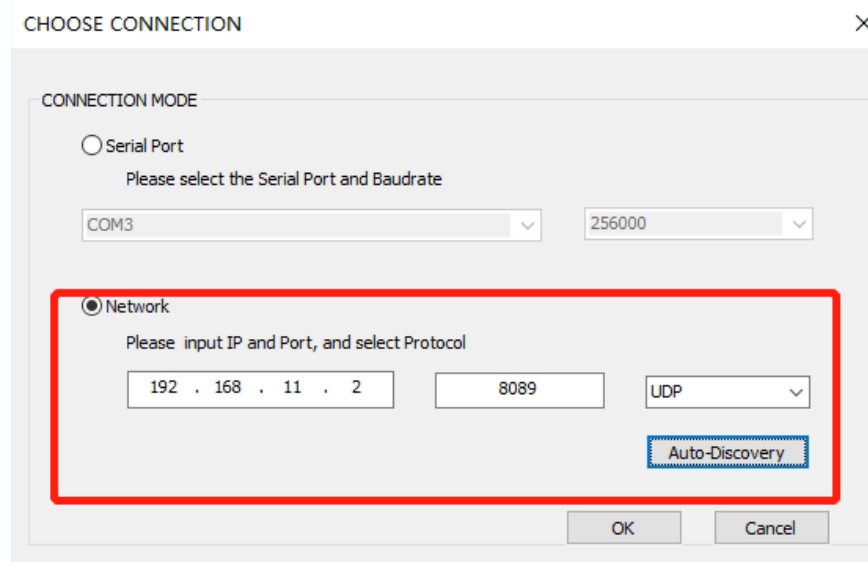
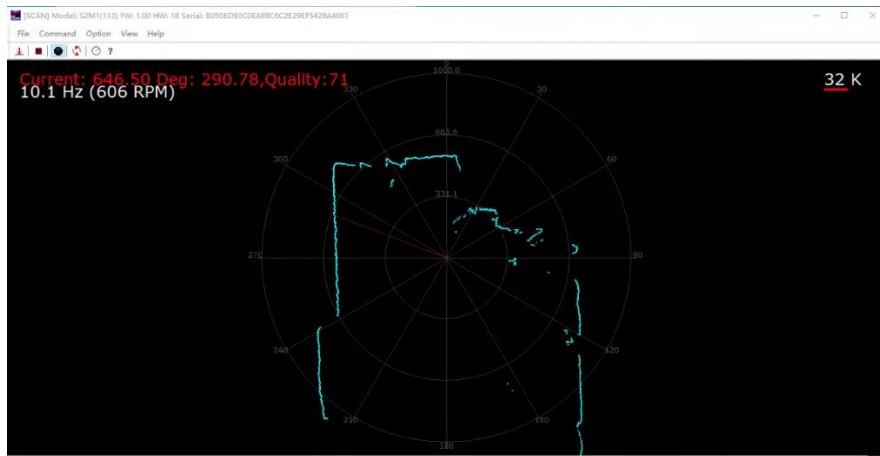

Figure 3-3 Selection Interface of Lidar Connection
Figure 3-5 Point Cloud Display Interface
4) Click "OK" in Figure 3-3 and then click  to scan point cloud, as shown in Figure 3-5. For SDK, please refer to startScanExpress and grabScanDataHq.